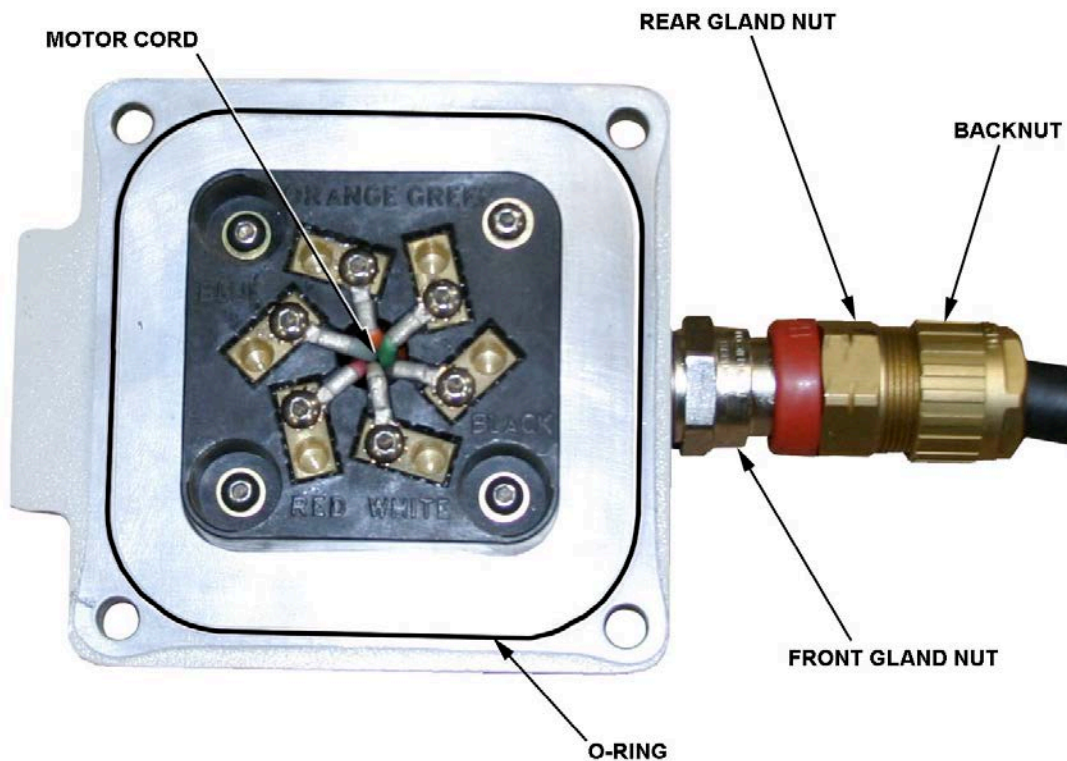

Figure 3. Motor Cord Connections to Power Connector
1. Remove cover from motor junction box, and discard O-ring (Figure 3).